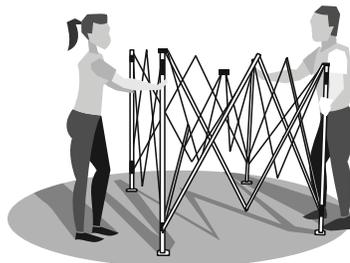

Fig. 3A
- 3 With partner, stand on opposite side of the frame. While holding the legs lift slightly off the ground taking a few steps backwards to extend frame at full arm's length as shown **(Fig. 3A)**.